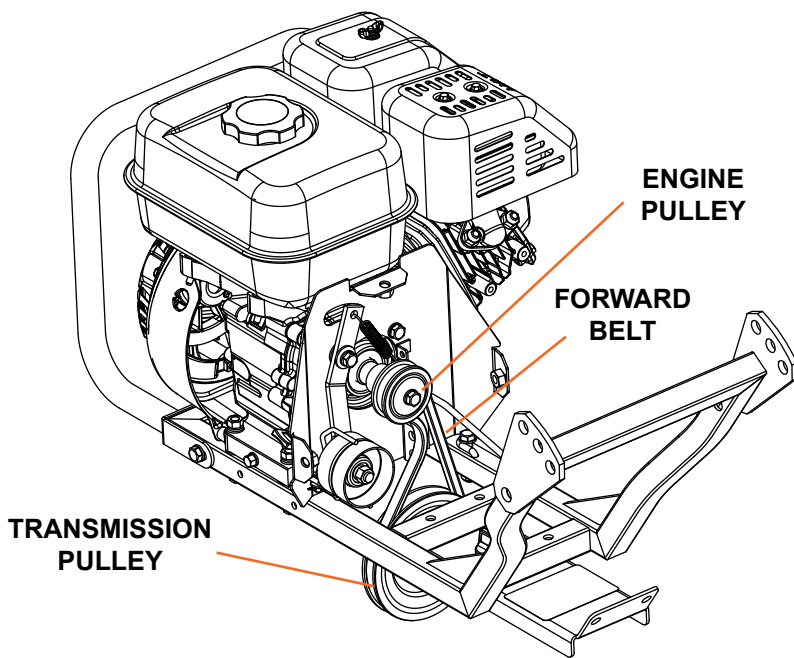

Figure 7
3. Remove belt guard (see Figure 7).